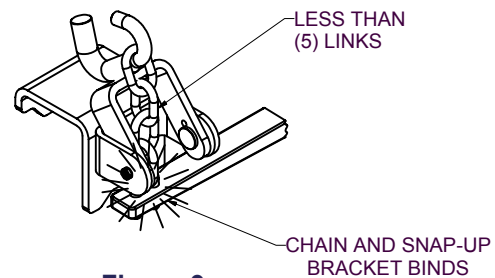

Figure 9
**CAUTION: FAILURE TO CONNECT THE SPRING BAR CHAIN CORRECTLY AND PROVIDE AT LEAST 5 LINKS BETWEEN SNAP-UP BRACKET AND SPRING BAR CAN RESULT IN DAMAGE TO THE SNAP-UP BRACKET. FIGURE 9 SHOWS INCORRECT SPRING BAR CHAIN HOOK UP.**